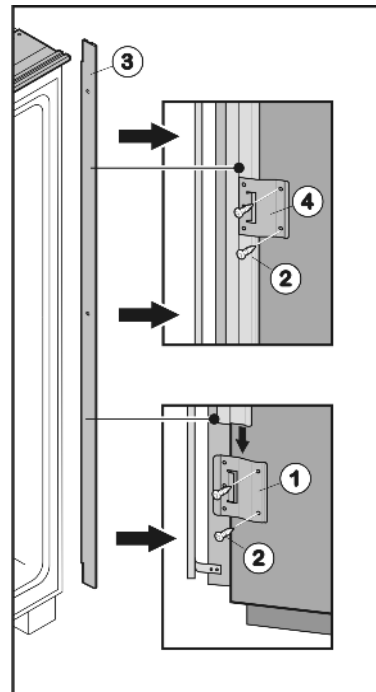
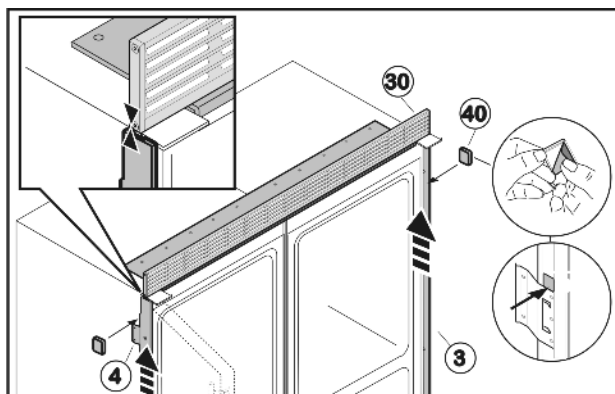

Fig. 47
Fig. 57
- Unscrew retaining plates Fig. 47 (1,4) and remove rail Fig. 47 (3).
- Fit retaining plate Fig. 47 (1) to the lower part of the hinge side by inserting two screws Fig. 47 (2) into the pre-cut holes.
- Slide rail Fig. 47 (3) into the retaining plate Fig. 47 (1) from above.
- Push second retaining plate Fig. 47 (4) onto the rail from above and screw onto the center of the side wall.
- Push third retaining plate Fig. 47 (4) onto the rail from above and screw onto the top part of the side wall.
- Remove adhesive tape from the side installation strip Fig. 57 (3).
- Push installation strip Fig. 57 (3) upwards until it is touching the ventilation grille Fig. 57 (30).
- Glue the adhesive plates Fig. 57 (40) above the retaining plate Fig. 47 (1) and the retaining plates Fig. 57 (4) respectively to the installation strip Fig. 57 (3) such that it cannot slide downwards.